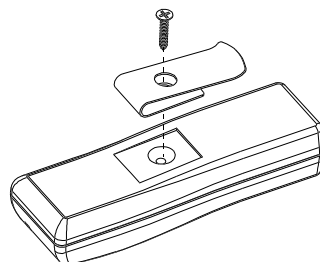

Figure 4. Screw and Belt Clip
- Remove the screw and the belt clip at the back of the unit (see Figure 4).
A. Carefully position the front cover in place, press it against the base and turn the unit with its back up. Position the belt clip as shown in Figure 4 and re-insert the screw.